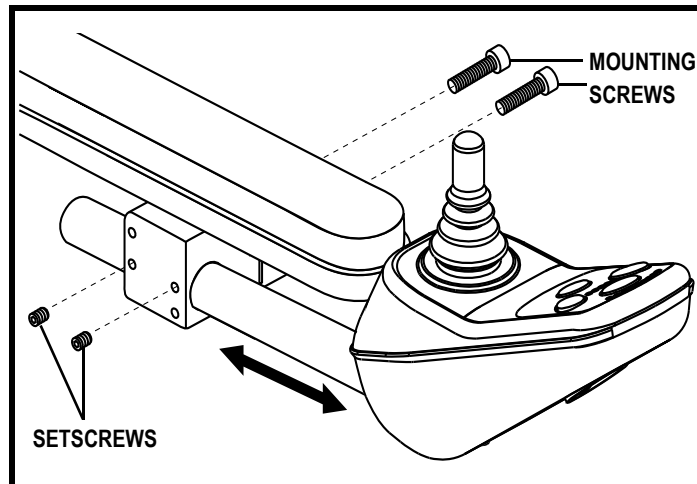

Figure 19. Controller Position Mounting Bracket
**NOTE:** If your power chair is equipped with a Specialty Seat, Synergy Seat, or TRU-Balance Power Positioning System, loosen the mounting screws in the mounting block, transfer the mounting block and controller to the opposite armrest, and tighten the mounting screws. See figure 19.